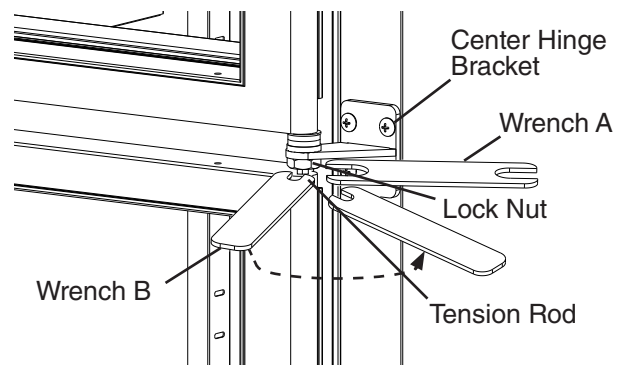

**Fig. 46**
- 2) Remove the front panel, then being careful not to pull the wires on the control module and door switch(es), remove the control panel. Secure the control panel so that it does not interfere with the hinge brackets and will not fall. See Fig. 46.